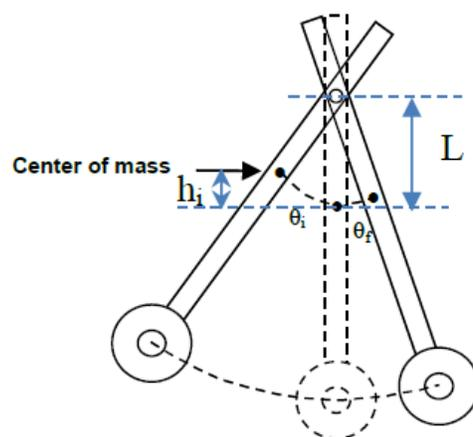

Figure 1: Oscillating wand with a coil in a magnetic field. Conversion of mechanical to electrical energy.
Figure 1 shows a swinging induction wand. When the coil in the induction wand swings in the magnetic field, a current is induced in the coil. Let  $L$  be the distance from the axis of rotation to the center of mass. If the center of mass of the pendulum starts from rest at a height  $h$ , its potential energy is
Here, the height  $h$  is measured from the lowest position of the center of mass when it swings (angle  $\theta = 0$ , see **Fig. 1**).
1. Unscrew the wand if it was attached. Plug in the banana plug resistor at the top end of the wand and try to balance it to find its center mass. Now, measure the distance ( $L$ ) from the pivot point to the center of mass (see Figure 1).